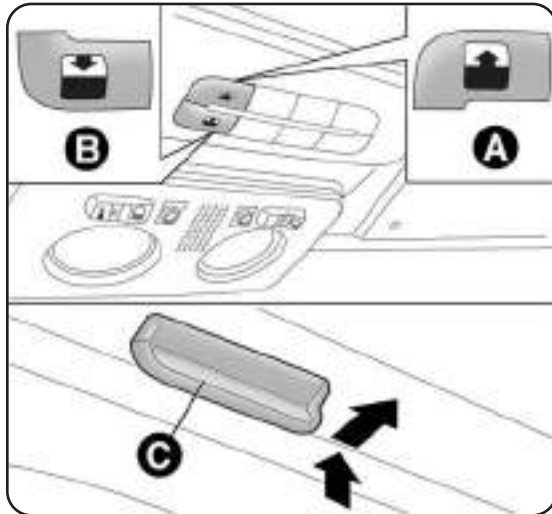

fig. 53
The large electric sun roof comprises two glass panels; the front one is mobile and the rear one fixed. These are equipped with two sun blinds (front and rear) that can be moved manually. With the sun roof closed, the blinds can be placed in any position. To open the blinds: grip handle C - fig. 53, and move the blind to the required position by following the direction of movement shown by the arrow. To close them, carry out the procedure in reverse. The sun roof can be operated only with the ignition key turned to MAR. The controls A-B fig. 53 on the front courtesy light trim operate the roof opening/closing functions.
Press and hold down button B - fig. 53. The front glass panel will move into the spoiler position; press button B once again and hold down for more than half a second to automatically move the sun roof to an intermediate position ("Comfort" position). If the opening control is pressed again for more than half a second, the roof will automatically continue until it reaches the end of travel position; the roof glass can be stopped in an intermediate position by operating the button again.
With the roof in the fully open position, press button A - fig. 53 and, if the button is operated for more than half a second, the front roof glass will automatically assume the intermediate position (comfort position). If the button is operated again for about half a second the roof will assume the spoiler position. Lastly, if the closing button is pressed again, the roof will assume the fully closed position.
- press button A - fig. 53 until the sun roof is completely closed. Release the button;